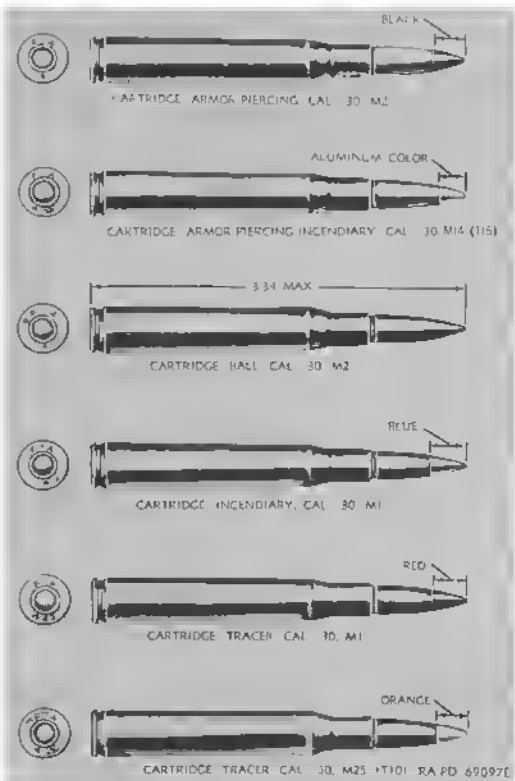
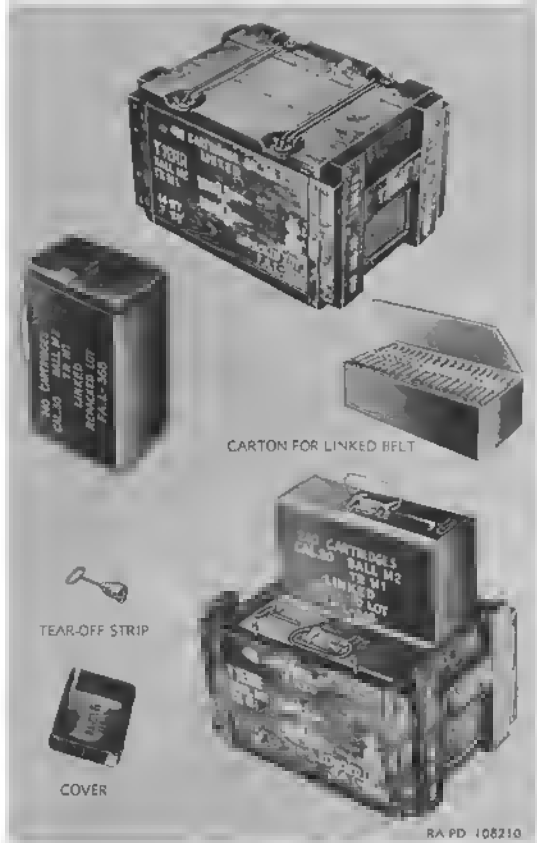

Figure 58. Cal. 30 service cartridges.
Figure 63. Box containing linked cal. .30 cartridges in cartons in M8 metal cans.
a. General. The marking on all original packing containers, both boxes and cartons (figs. 63, 64, and 65), clearly and fully identifies the ammunition *except* as to grade. For grades, see *f* below. The significance of the AIC symbol and silhouette as part of the marking is explained in *g* below. The ammunition lot number including its importance is described in *d* and *e* below. The cartridges themselves as marked and stamped as outlined in (1) and (2) below.
- (1) The manufacturer's initials or symbol and the year of loading are stamped on the base of the cartridge case.
- (2) The distinguishing characteristics of the several types and models of cartridges are described in *b* below.
b. Types. When removed from their original packing containers, the cartridges may be identified, except as to ammunition lot number and grade, by physical characteristics described below and illustrated in figures 58 through 60. Care should be taken not to confuse these original markings on the bullets with any subsequent markings made with coloring material, which is used to identify gunner's hits during target practice (*h* below).
g. Marking. In addition to the required markings on packing boxes for shipping purposes, the following are also stenciled or marked on the boxes (figs. 63, 64, and 65).
- (1) Ammunition lot number or repacked lot number.
- (2) Types and ratio, or type, of the cartridges within the box; for example, "4 BALL M2, 1 TR M1" or "AP".
- (3) Gross weight of the packing box.
- (4) Cubical displacement of the packing box.
- (5) Silhouettes on one side and one end of packing boxes containing cartridges in linked belts to indicate the type of inner packings; for example, for cartridges packed in metallic
link belts, the silhouette shown in figures 63 and 64 is used. The absence of a silhouette indicates that the ammunition is packed in cartons. For cal. .30 cartridges the silhouettes are vertical; for cal. .50 cartridges they are diagonal.
Cal. .30 service cartridges are packed as indicated in Table VI and as illustrated in figures 63 through 65. The weights shown in the table may vary slightly, dependent upon the particular type of cartridge. For additional packing data, see Department of the Army Supply Manual ORD 3 SNL's T-1 and T-5.